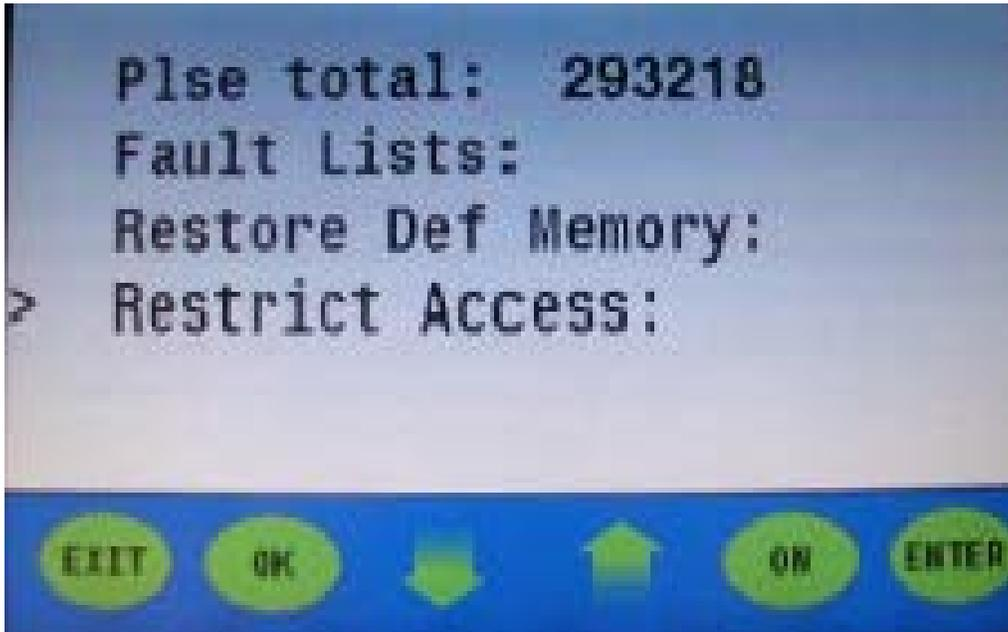
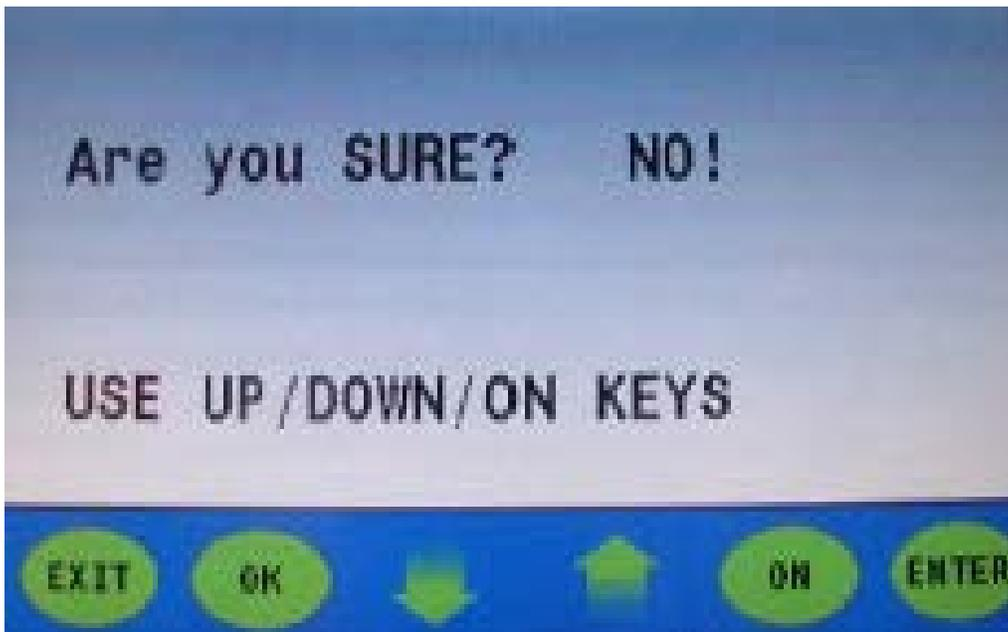

Figure 2
Figure 3
2. Using the **down arrow**, scroll to "**restrict access**" (**figure 2**).
3. Press the **enter button (figure 2)**; the display will read "**no**" (**figure 3**).